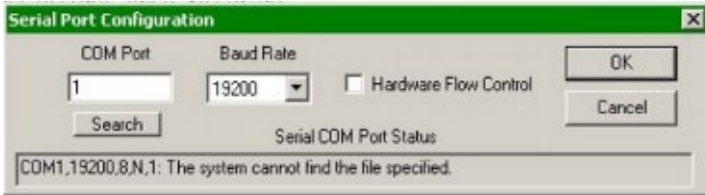

Figure 1
4. Manually Configure the Serial Port. The first time the program is run, the default serial port configuration is used to find the readout. If failure occurs the port must be configured correctly. Make sure readout is connected to the computer and turned on. Click File > Configure Serial Port. The configuration dialog appears (figure 1)